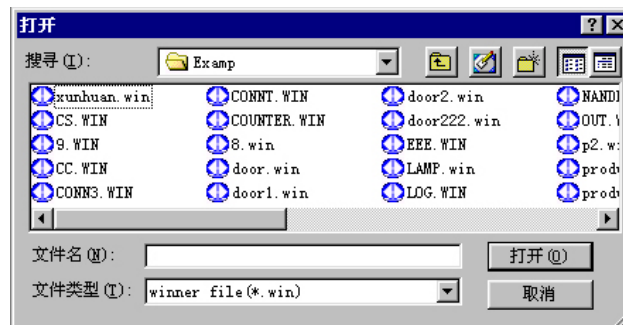

Fig4.4 Dialogue Box of Existed Document
E.g.: To complete all the function module of the airiness system control, as Fig 4.4 shown, put all the function module into the edit box.